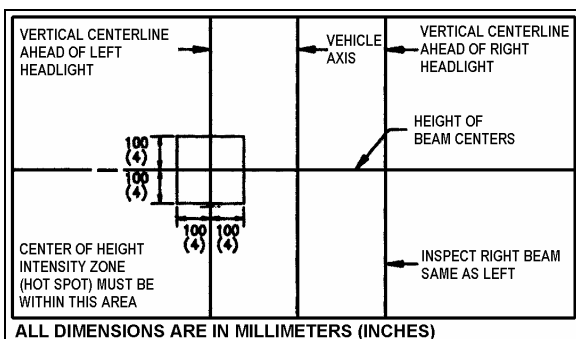

FIGURE 52: AIM INSPECTION LIMITS FOR UPPER-BEAM HEADLIGHTS 06505
7. The inspection limits for high-beam headlights shall be with the center of the high-intensity zone from 10 cm (4 in) up to 10 cm (4 in) down; and, from 10 cm (4 in) left to 10 cm (4 in) right on a screen at 7.6 m (25 ft) (Fig.52).